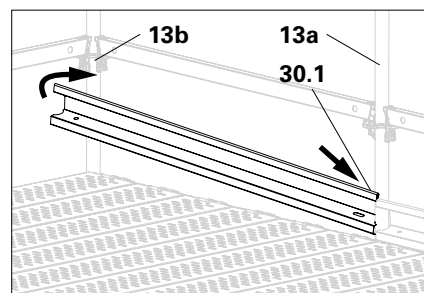

Fig. A5.02a
- The larger tube section (**30.1**) is on the right. (Fig. A5.02a)